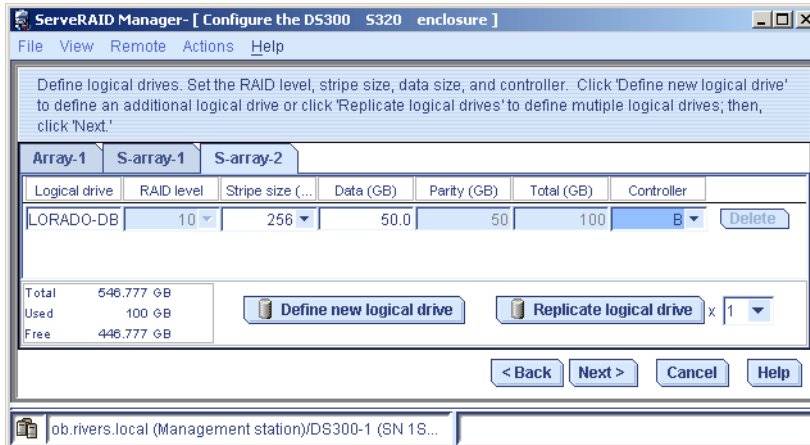

Figure 4-73 Logical drive COLORADO-DB
18. Select **S-array-2** as shown in Figure 4-73 on page 124. Assign a meaningful logical drive name. The RAID level determined automatically by the used